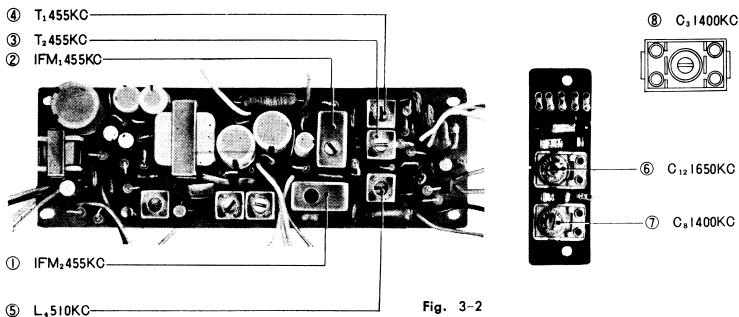

Fig. 3-2
##### (3) Adjusting procedure for radio (See Fig. 3-2)